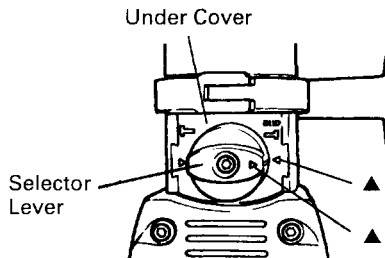

Fig. 6
- (1) Rotation-hammering (Fig. 6)